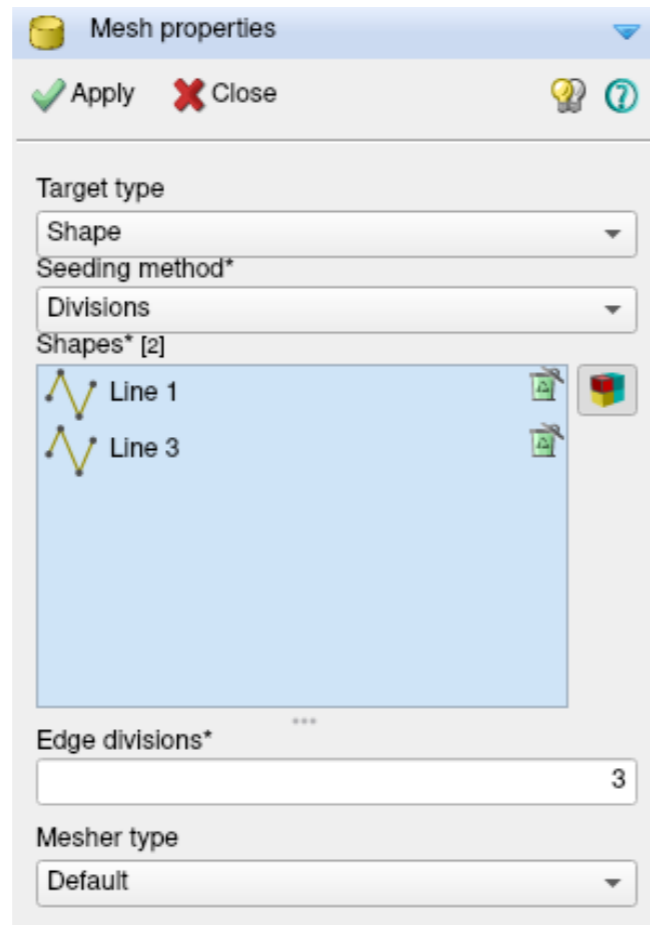
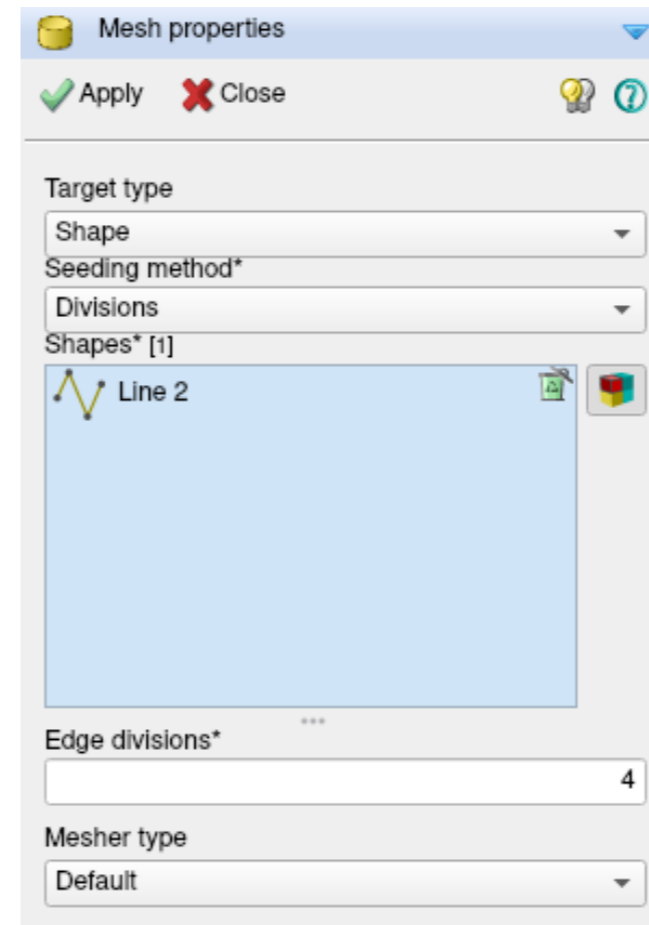

Figure 25: Mesh properties for vertical beams
Figure 26: Mesh properties for horizontal beam
**Main menu** → Geometry → Mesh → Mesh properties  [Fig. 25] [Fig. 26]